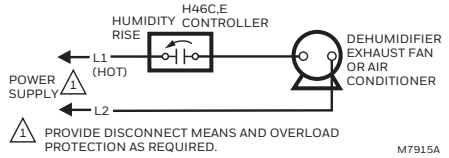

Fig. 4. Typical wiring diagram for H46C,E.
5. Pull the wires from the switch box through the opening in the adapter plate and connect to the H46 leadwires with the solderless connectors (provided). See Fig. 4 for typical hookups.